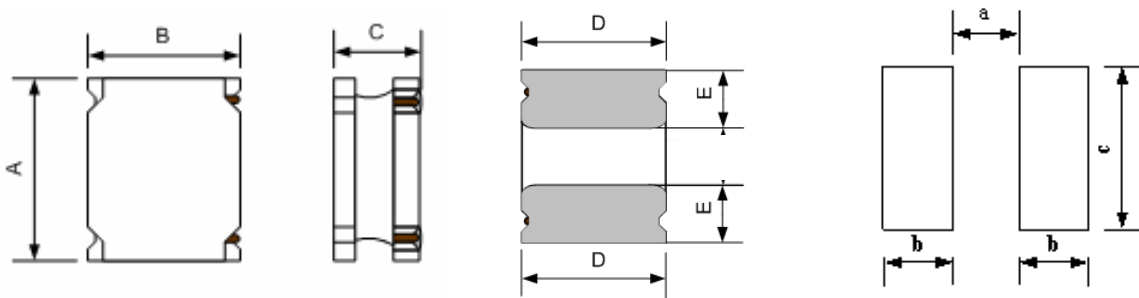

Fig.4-1
- Dimensions and recommended PCB pattern for reflow soldering, please see **Fig.4-1** and **Table 4-1**.